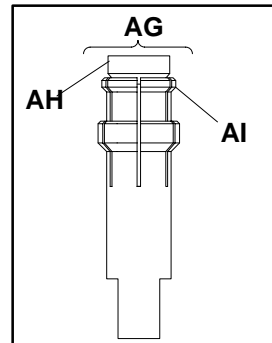
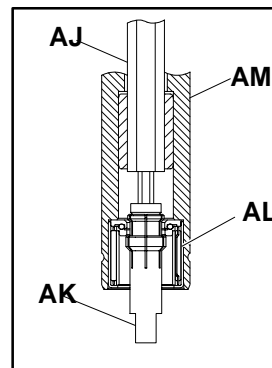

Figure 29
Figure 30
Bearings in pulleys on the 3" (70 mm) and wider conveyors can be removed with Dorner Bearing Removal Tool (AG of Figure 29), part number ☆25-05.
1. Make sure that the flair (AI) on the bearing removal tool is completely closed. If it is slightly open it may not fit into the bearing (AL of Figure 30). Use the hex key wrench extension tool (AJ, either part number ☆25-08 or ◇25-08A and loosen the tapered screw (AH of Figure 29) while compressing the flair (AI) inward to make sure that the tool is completely closed.
2. Insert bearing removal tool (AK of Figure 30) into the pulley (AM) through bearing (AL).